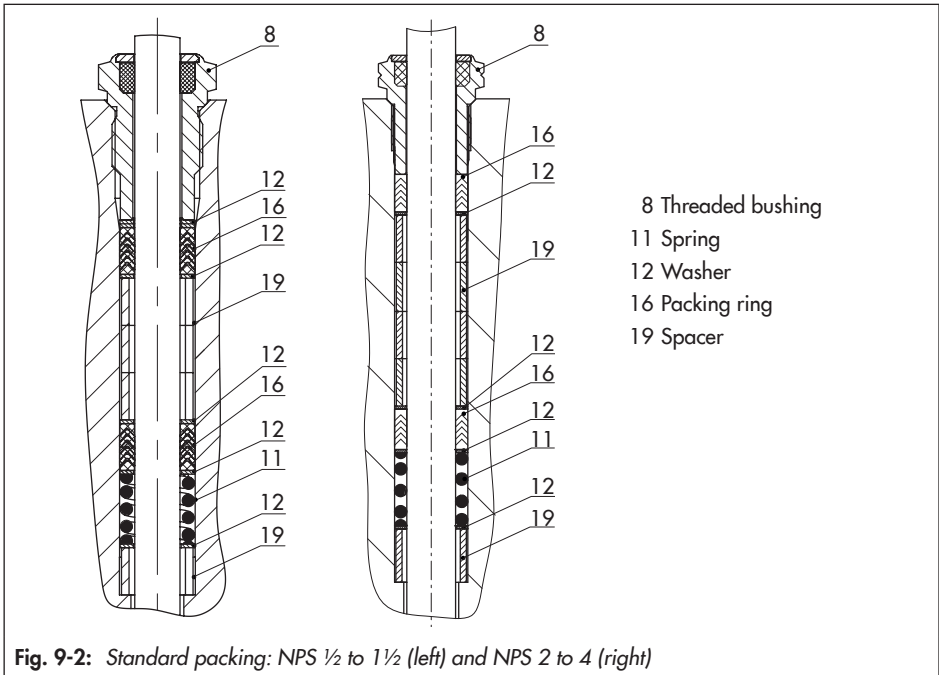

Fig. 9-2: Standard packing: NPS 1/2 to 1 1/2 (left) and NPS 2 to 4 (right)
2. Undo the top body nuts (14) gradually in a crisscross pattern.
3. Lift the bonnet (2) and plug with plug stem (5) off the body (1).
4. Unscrew the stem connector nut (9) and lock nut (10) from the plug stem.
5. Unscrew the threaded bushing (8).
6. Pull the plug with plug stem (5) out of the bonnet (2).
9. Apply a suitable lubricant to all the packing parts and to the plug stem (5).
10. Slide the plug with plug stem (5) into the bonnet (2).
11. Place the bonnet (2) together with the plug stem and plug (5) onto the body.
12. Carefully slide the packing parts over the plug stem into the packing chamber using a suitable tool. Observe the proper sequence (see Fig. 9-2).
13. Firmly press the plug (5) into the seat (4). Fasten down the bonnet (2) with the top body nuts (14). Tighten the nuts gradually in a crisscross pattern. Observe tightening torques.
13. Firmly press the plug (5) into the seat (4). Fasten down the insulating section (21) with the top body nuts (14). Tighten the nuts gradually in a crisscross pattern. Observe tightening torques.
14. Screw in the threaded bushing (8) and tighten it. Observe tightening torques.
15. Place yoke (3) onto the insulating section (21) and fasten using the castellated nut (92).
16. Loosely screw the lock nut (10) and stem connector nut (9) onto the plug stem.
16. Carefully slide the packing parts over the plug stem into the packing chamber using a suitable tool. Observe the proper sequence (see Fig. 9-2).
17. Firmly press the plug (5) into the seat (4). Fasten down the bonnet (2) with the top body nuts (14). Tighten the nuts gradually in a crisscross pattern. Observe tightening torques.
18. Screw in the threaded bushing (8) and tighten it. Observe tightening torques.
19. Place yoke (3) on the bonnet (2) and fasten using the castellated nut (92).
20. Loosely screw the lock nut (10) and stem connector nut (9) onto the plug stem.